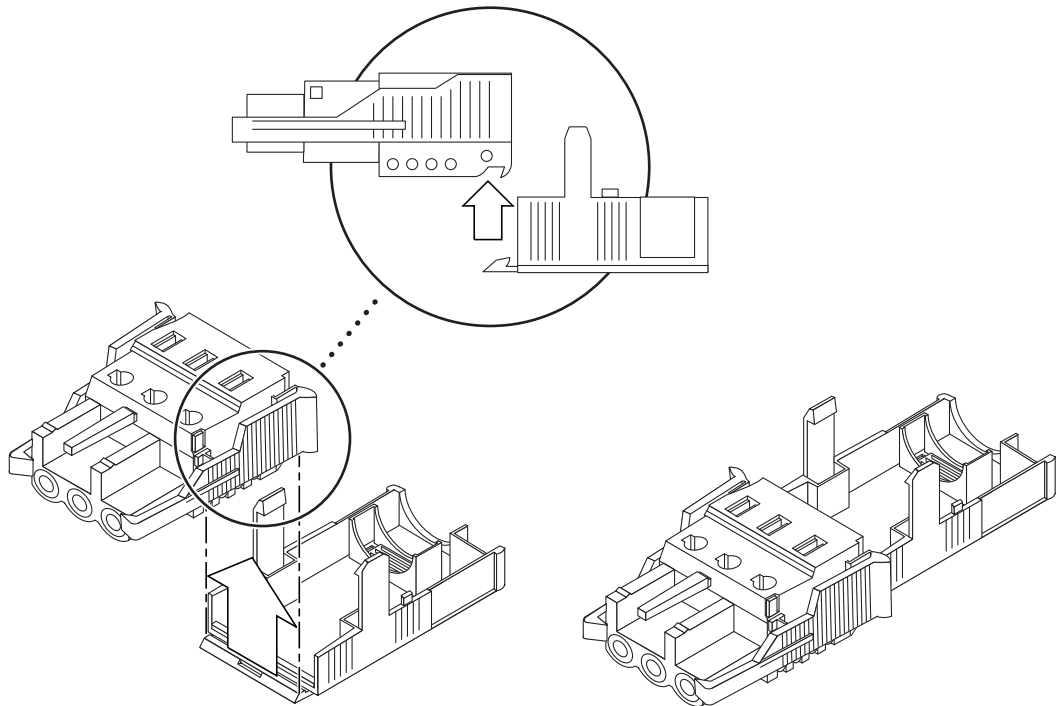

FIGURE 3-6 Inserting the Bottom Portion of the Strain Relief Housing
1. **Insert the bottom portion of the strain relief housing into the notch on the DC connector until it snaps into place (see FIGURE 3-6).**